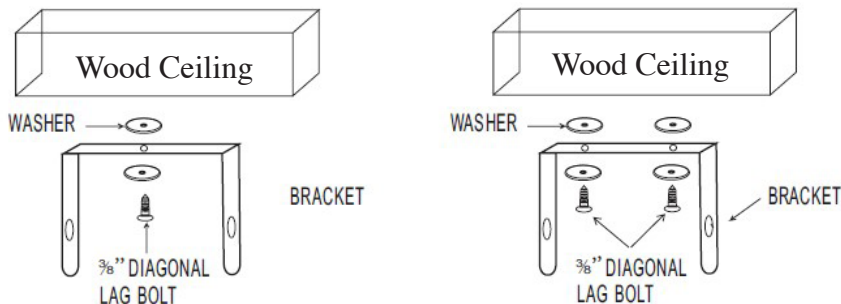

Figure 4a-single-Screw Mounting Figure 4b-Double-Screw Mounting
Refer to Figures 4a and 4b.
NOTE: If you want to swivel the heater either to the right or left adding a washer to both sides of the bracket is recommended. A longer lag bolt may be required to properly secure the unit. See Figure 4a.
1. To turn the unit when it has been installed with a single lag bolt (as shown in Figure 4a), simply turn the entire heater as needed. The unit cannot be turned horizontally if it has been installed with 2 lag bolts.
1. To turn the unit when it has been installed with a single lag bolt (as shown in figure 4a), simply turn the entire heater as needed. The unit cannot be turned horizontally if it has been installed with 2 lag bolts.